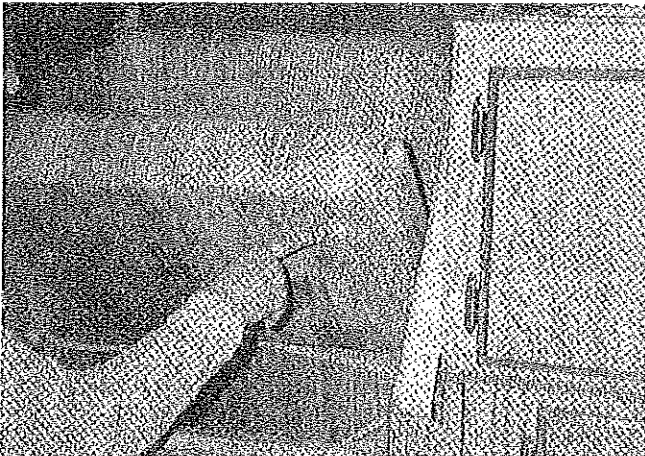

FIGURE 25
1. On models with a rear dinette, lift the backrest off the dinette table and slide the seat cushion inboard. Set the backrest in place against the side wall. Slide the seat cushion in place, making sure that the plastic stops are wedged firmly against the interior of the metal seat frame. See Figure 25.
NOTE: To lift dinette seat, be certain to push the seat cushion firmly toward the backrest wall before lifting in order to prevent inadvertent damage to the plastic stops. See Figure 25.